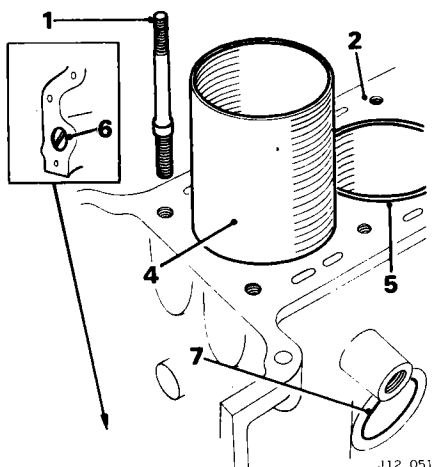
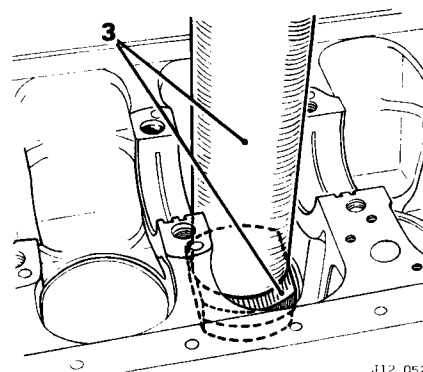

Fig. 66
Fig. 67
**b. Cylinder Block.** Check the top face of the cylinder block for truth. Check that the main bearing caps have not been filed and that the bearing bores are in alignment. Should the caps show damage or the bearing housing misaligned, the caps must be re-machined and the bearing housings line bored. Remove the cylinder head studs (1, Fig. 66). Check the area around the studs holes for flatness (2, Fig. 66). Skim any raised areas flush with the joint face to ensure a perfectly flat sur-
Press out the worn liners (Fig. 67) from below. Before fitting a new liner, lightly smear the cylinder walls with jointing compound to a point halfway down the bore and also smear the top outer surface of the liner (4, Fig. 66). Press in the new liners flush with the top face of the cylinder block (5, Fig. 66). Dry liners are fitted in engine manufacture to early 4.2 litre blocks, but not normally to 3.4 litre blocks.
Following reboring, the blanking plugs in the main oil gallery (6, Fig. 66) should be removed and the cylinder block oilways and crankcase interior thoroughly cleaned.
Check all core plugs (7, Fig. 66) fitted to the cylinder block and renew any which show signs of leaking.